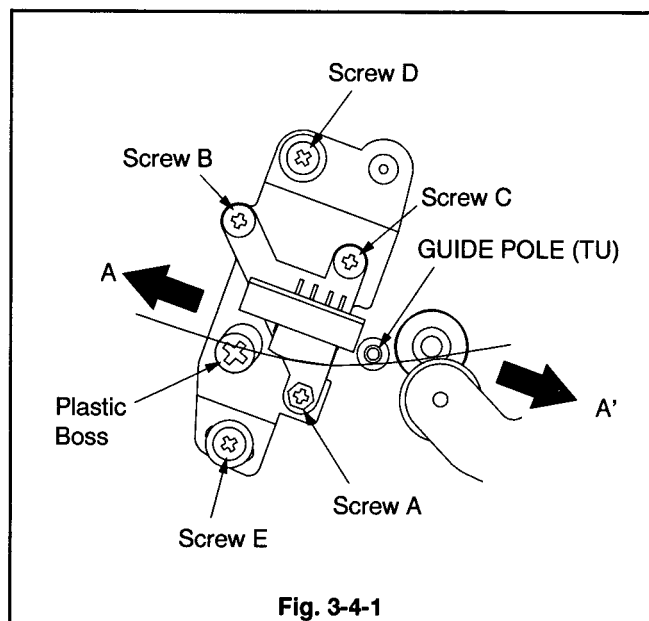

Fig. 3-4-1
- 12 Push the A/C HEAD to the right and left (in the direction of A-A' in Fig. 3-4-1) and then release the A/C HEAD. Check that the amplitude of the FM waveform does not change from that before shifting the A/C HEAD.